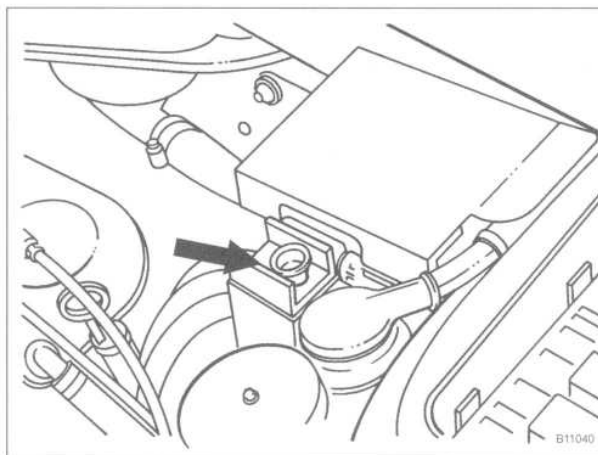

Fig. 17. Positive (B+) junction post in rear of engine compartment. Connect positive (+) jumper cable to post (arrow).
2. Connect one end of the positive (+) cable to the positive (+) post of the good battery. Remove the cover from the positive (B+) junction post in the engine compartment and connect the other end of the positive (+) cable to the junction post. See Fig. 17.